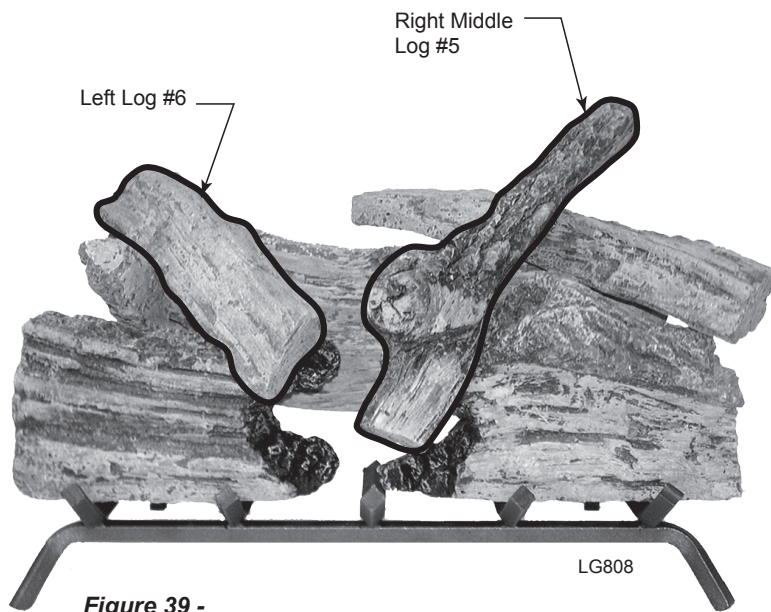

Figure 39 -
6. Place front of Right Middle Log #5 on top right of Log #1ab. Rest back end of Log #5 on top right of Log #4. *Figure 39*
7. Place front of Left Log #6 just left of the middle of Log #1a and back end of Log #6 just left of middle of Log #3. *Figure 39*